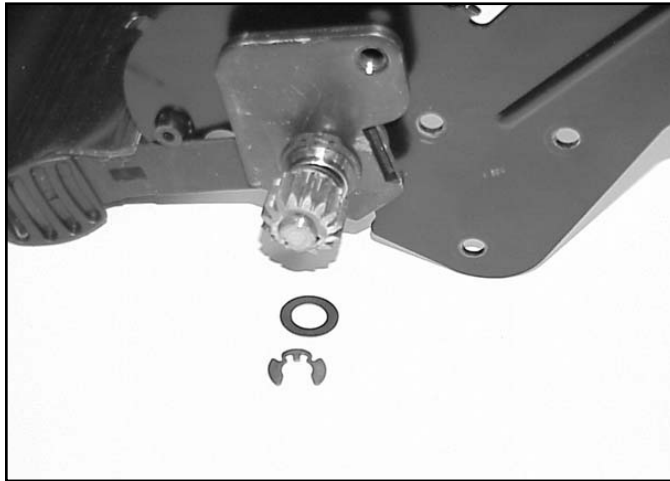

Fig 077
1. Remove the klip rings and thrust washers that secure the pinions to the axle (Fig. 077).